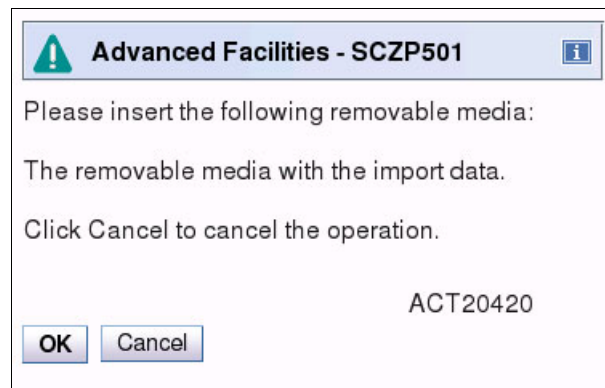

Figure 14-81 OSA Advanced Facilities: insert media
6. You are prompted to insert the media (Figure 14-81). Click **OK**.